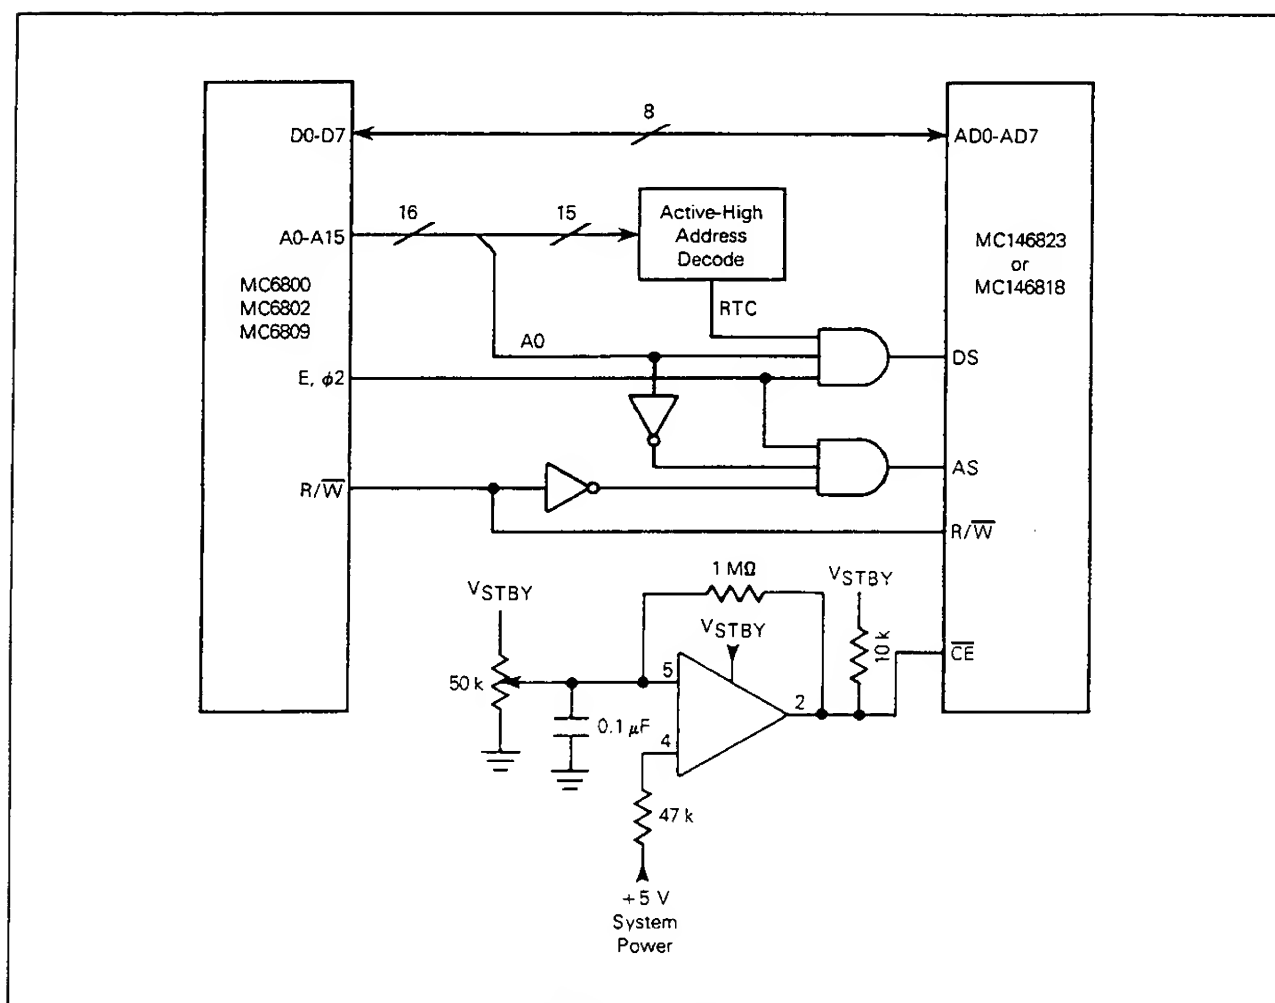
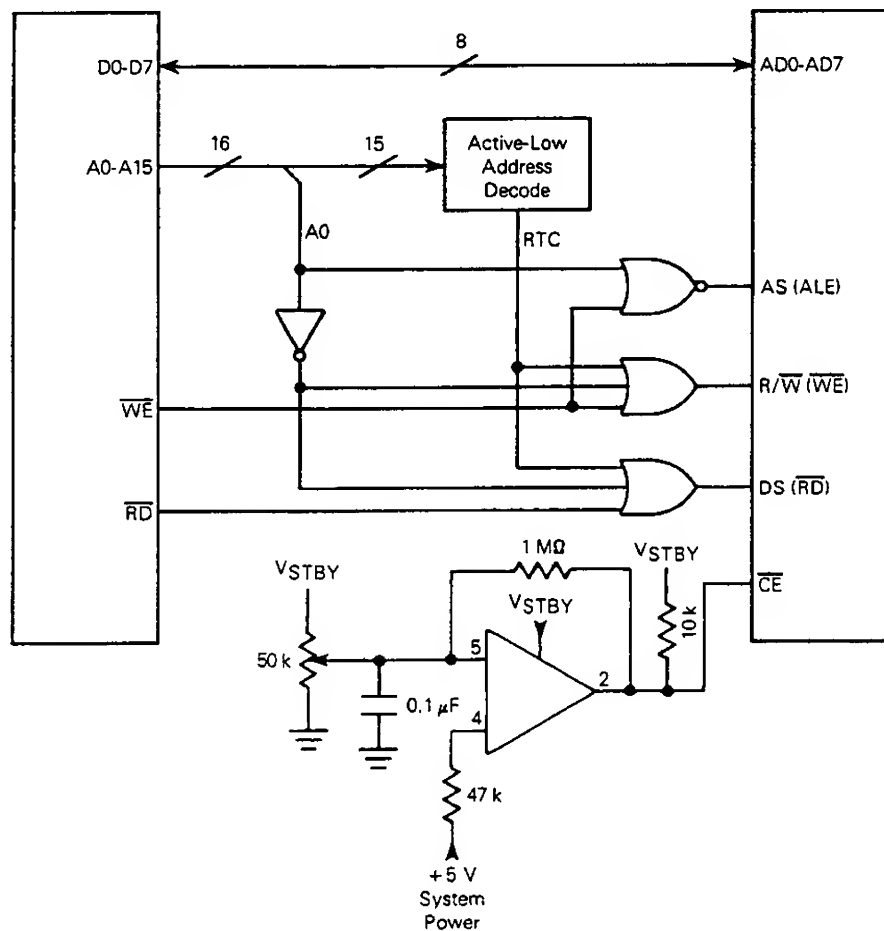

FIGURE 1 — MC146818/MC146823 and Motorola MPU
FIGURE 3 — MC146818/MC146823 and Competitor MPU
Another method, for allowing a non-multiplexed bus MPU to read or write multiplexed bus peripherals, is to consider the multiplexed bus as a two-register device. One register could be the address latch and the other could be the data register. By connecting the non-multiplexed bus to the multiplexed bus, as shown in Figure 1, the address strobe (AS) is generated by any MPU write to an even address (A0 is low). Although AS causes the state of the multiplexed pins to be captured in the address latch, no data is transferred until the data strobe (DS, RD, or WR) is generated. The data strobe is not generated until a specific decoded, odd address occurs; i.e., A0 is high. Thus, a valid access can only be made by first writing to the location (\$00-\$3F) of the byte to be accessed at an even address, and then by either reading from or writing to the decoded odd address. The software subroutine required to generate the address strobe (AS) and data strobe (DS) signals for the interface shown in Figure 1 is listed in Figure 2. The location to be accessed is contained in accumulator A and data is transferred via accumulator B. The following example clears register A (location \$0A) and then reads the data at location \$25.
The schematic diagram shown in Figure 1 provides an interface between Motorola devices: MC6800/MC6802/MC6809 MPU interfaced with an MC146818 Real Time Clock or MC146823 CMOS Parallel Interface. Since both the MC146818 and the MC146823 are implemented with the Motorola MOTEL circuit (for MOTorola and IntEL bus compatibility), they can be interfaced with either of the two most common multiplexed bus structures. The hardware required for interfacing a competitor's non-multiplexed MPU with either the MC146818 or MC146823 is shown in Figure 3.
down is different for each device. Also, on both devices  $\overline{CE}$  is used to isolate the device from the bus except as follows: (1) when AS is high on the MC146823 and (2) on the MC146818  $\overline{CE}$  must be valid before the falling edge of AS and it must remain valid until the training edge of DS. For these reasons, the comparator circuit shown in Figures 1 and 3, is used to provide CE. One input to the comparator is connected to the +5 V system power source. The other comparator input is connected to a reference voltage (assume +4 V). The battery backup voltage, used to provide the reference source, should approximate the system +5 V supply. When the system voltage falls below the reference level, the comparator toggles and deselects the MC146818 ( $\overline{CE}$  goes high). This isolates the RTC from the bus. The comparator toggling action precludes spurious writes to the MC146818 RAM or other registers during the time between system power loss and trigger output. The comparator configuration shown provides some hysteresis. This ensures that there is no input voltage which would cause a bouncing effect at the  $\overline{CE}$  pin.